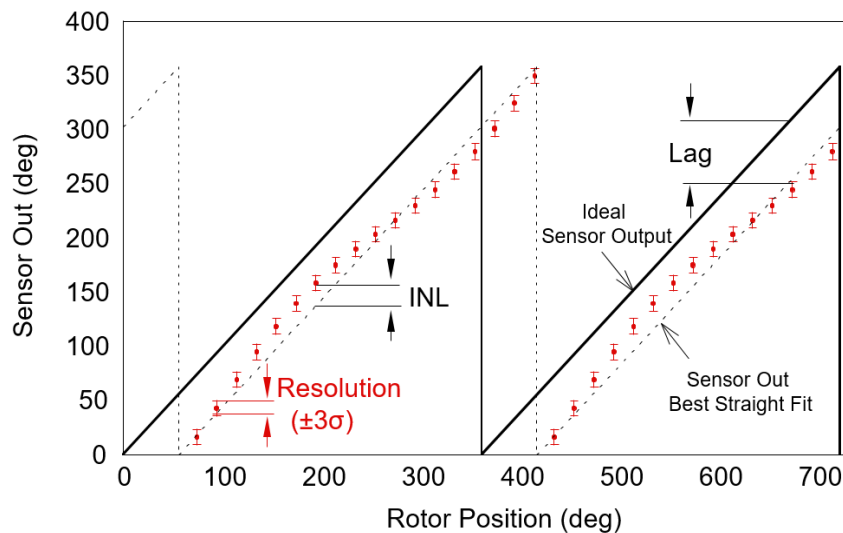

Figure A1: Resolution, INL, Lag
- Integral Nonlinearity (INL)** The maximum deviation between the average sensor output (at a fixed position) and the true mechanical angle (see Figure A1).